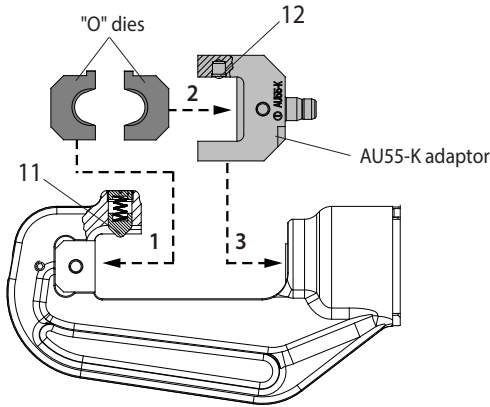
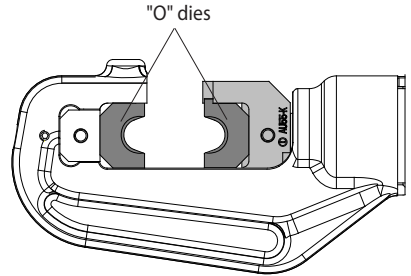

FIG. 2e
FIG. 2f
- Insert one "O" type die in the upper seat of the head (1) and the other die into the adaptor AU55-K (2), the two dies will be held by pins (11 and 12) (see Fig. 2e).
- Insert the adaptor AU55-K into the seat of the ram (3).
- To disassemble them it will be sufficient to slip them from the head (see Fig. 2f).